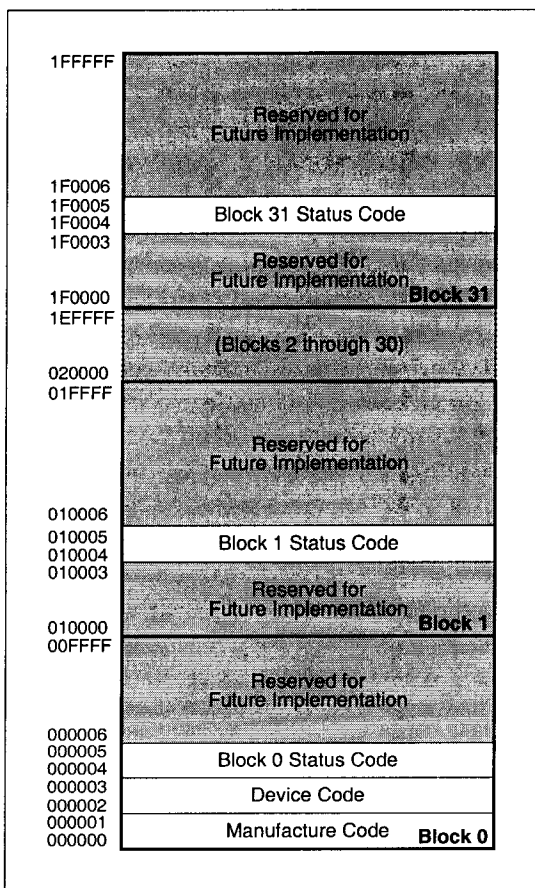

Fig. 2 Device Identifier Code Memory Map
The read identifier codes operation outputs the manufacture code, device code, block status codes for each block (see **Fig. 2**). Using the manufacture and device codes, the system CPU can automatically match the device with its proper algorithms. The block status codes identify locked or unlocked block setting and erase completed or erase uncompleted condition.
IA = Identifier code address : see **Fig. 2**.
The identifier code operation is initiated by writing the Read Identifier Codes command. Following the command write, read cycles from addresses shown in **Fig. 2** retrieve the manufacture, device, block lock configuration and block erase status (see **Table 4** for identifier code values). To terminate the operation, write another valid command. Like the Read Array command, the Read Identifier Codes command functions independently of the VPP voltage and RP# must be VIH. Following the Read Identifier Codes command, the following information can be read :
1. X selects the specific block status code to be read. See **Fig. 2** for the device identifier code memory map.